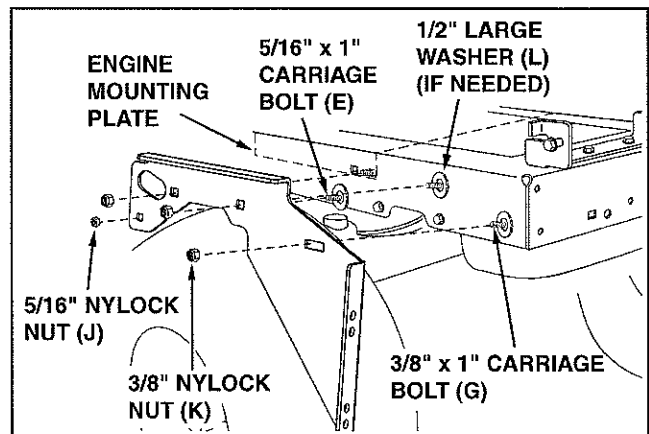

FIGURE 3
5. Fasten the R.H. hanger bracket (bend facing out) to the holes indicated in the tractor frame. If there is an engine mounting plate like the one drawn with dotted lines, use large 1/2" flat washers (L) as shims between the hanger bracket and the tractor frame in the locations shown. In the front three holes use three 3/8" x 1" carriage bolts (G), two large 1/2" washers (L) if needed, and three 3/8" nylock nuts (K). In the rear hole use a 5/16" x 1" carriage bolt (E), a large 1/2" washer (L) if needed, and a 5/16" nylock nut (J). Tighten all bolts. Repeat for the L.H. hanger bracket. See figure 3.